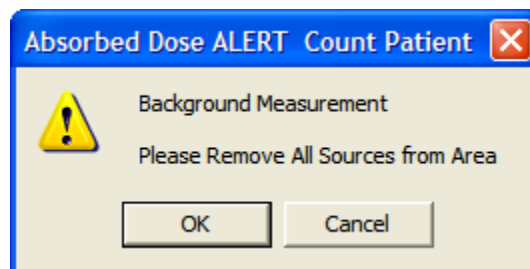

Figure 9-21
4. Click the **Background** button or press *Alt+B* to measure background. Figure 9-21 will appear.